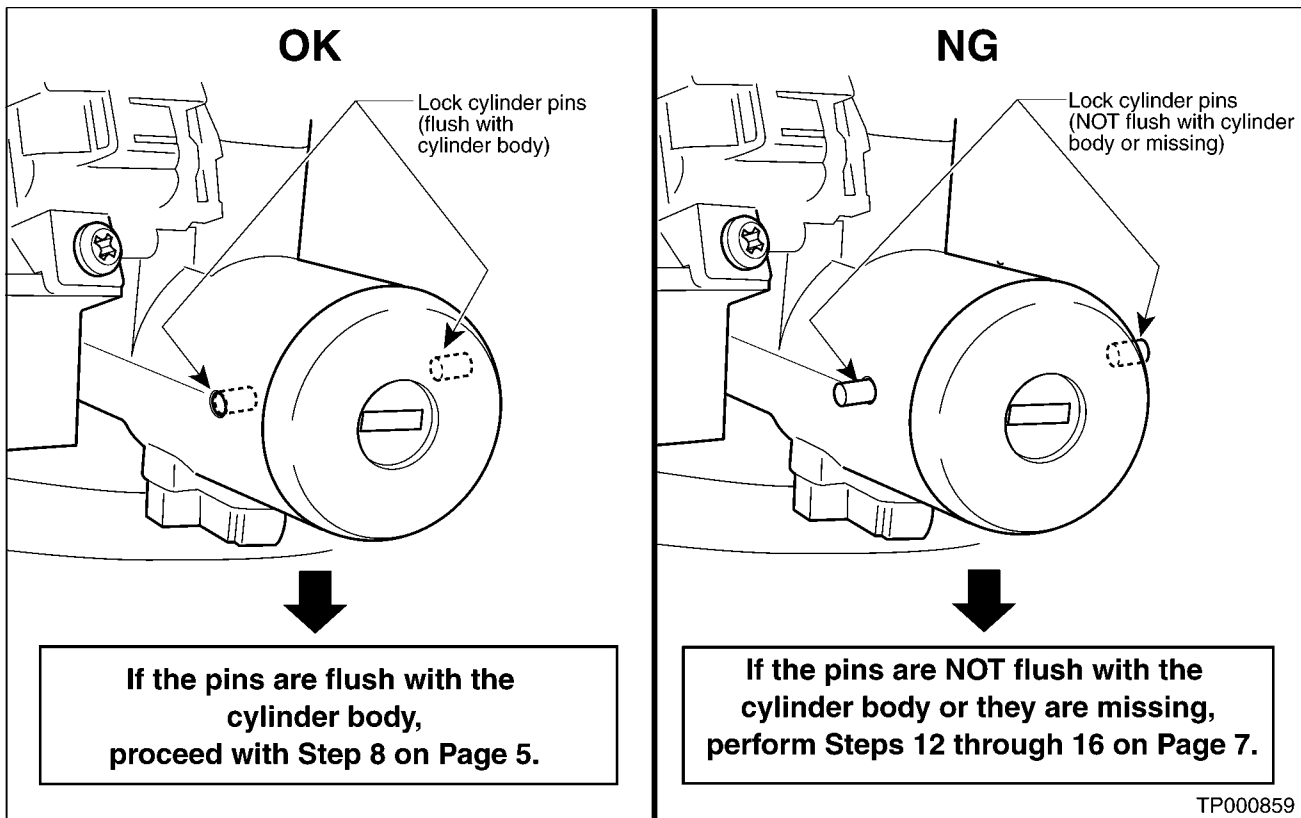

Figure 6
- Inspect the ignition key lock cylinder pins located on each side of the lock cylinder. See Figure 6.